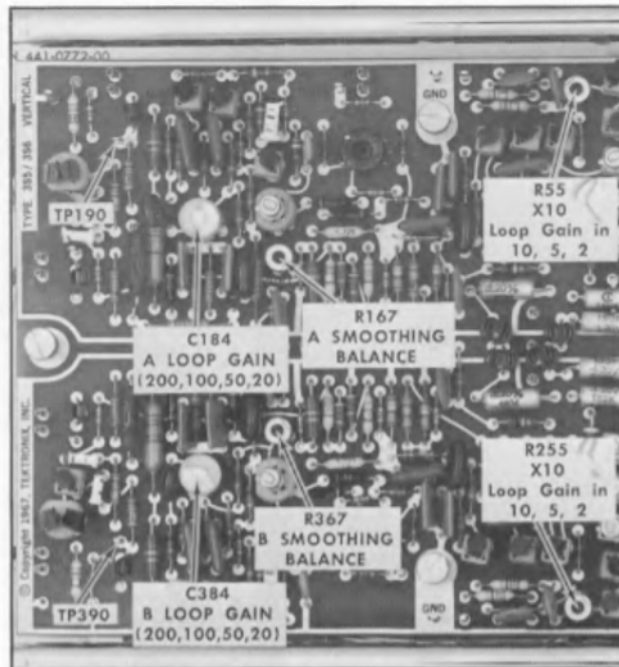

Fig. 7-10. Vertical circuit board control locations, left side.
d. Connect the test oscilloscope 10 \times probe to TP390 (or TP190 for Channel A), see Fig. 7-10. Free run the test oscilloscope, sweep rate of 1 ms/div and vertical deflection factor of 1.0 V/div (including the probe 10 \times attenuation).
f. Adjust the Loop Gain (200, 100, 50, 20) capacitor C384 (C184 for Channel A) until the two indicator oscilloscope traces are exactly 5 major divisions apart. See Fig. 7-10 for capacitor location. The test oscilloscope display should indicate exactly 2.5 volts difference between the two traces
If the sampling head output signal is greater than that stated in part a at the beginning of this step, and at the same time the sampling display shows greater than unity loop gain, adjust the Type 356 Loop Gain control, C184 (C384 for Channel B), for unity loop gain. See Fig. 7-10 for locations.